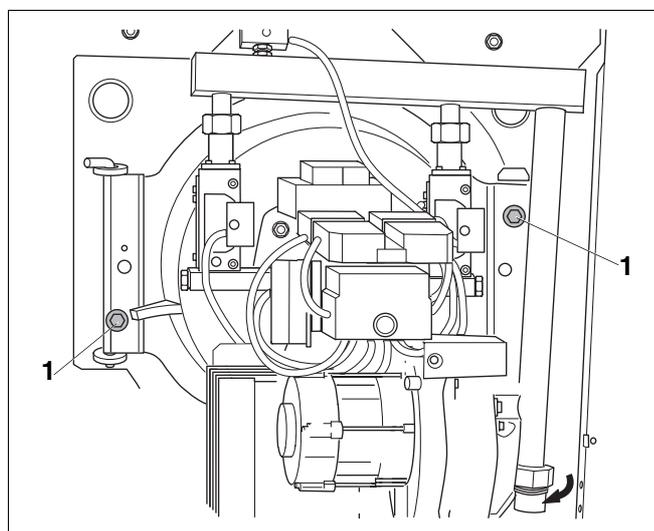

Fig. 23 Burner door SB315 VM with installed pre-mix burner
- Secure the burner door with two hexagon bolts (Fig. 23, **item 1**) (torque approx. 10; max. 15 Nm).
- Remove the hexagon bolts from the upper boiler door and open the door, see Fig. 23, page 21.
- Pivot the upper burner door with the burner to the side, see Fig. 23, page 21.